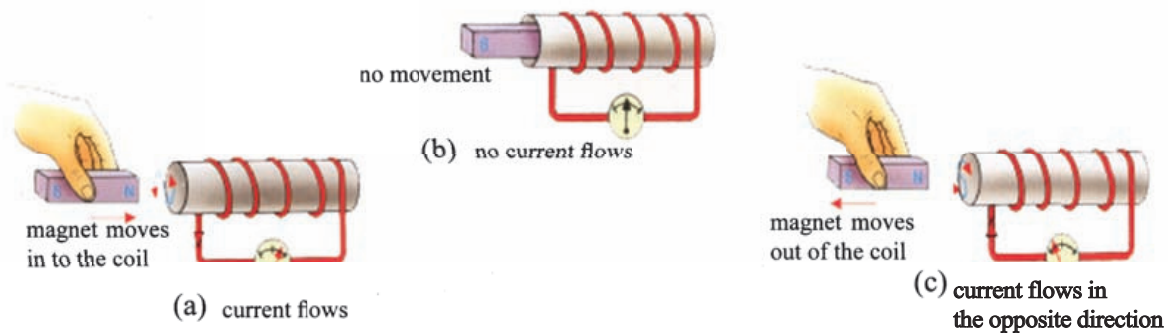

Fig 3.31 - Electro Magnetic Induction
- Connect a coil with large number of turns to a centre zero galvanometer as shown in the Figure 3.31 (a)
- First move a bar magnet with strong magnetic field strength quickly into the coil as shown in the Figure 3.31 (a) and observe the response of the galvanometer.
- Secondly keep the magnet at rest inside the coil as shown in the Figure 3.31(b) and observe the response of the galvanometer.
- Thirdly, pull the bar magnet quickly out of the coil as shown in the figure 3.31(c) and observe the response of the galvanometer.